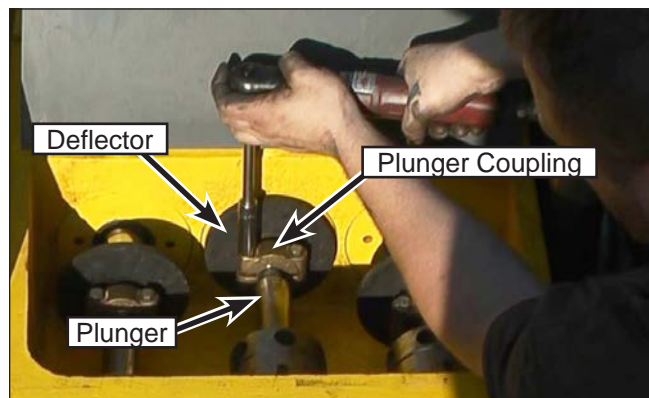

Figure 107: Plunger Connection.
10. Install the deflector (Figure 107) onto the pony rod.